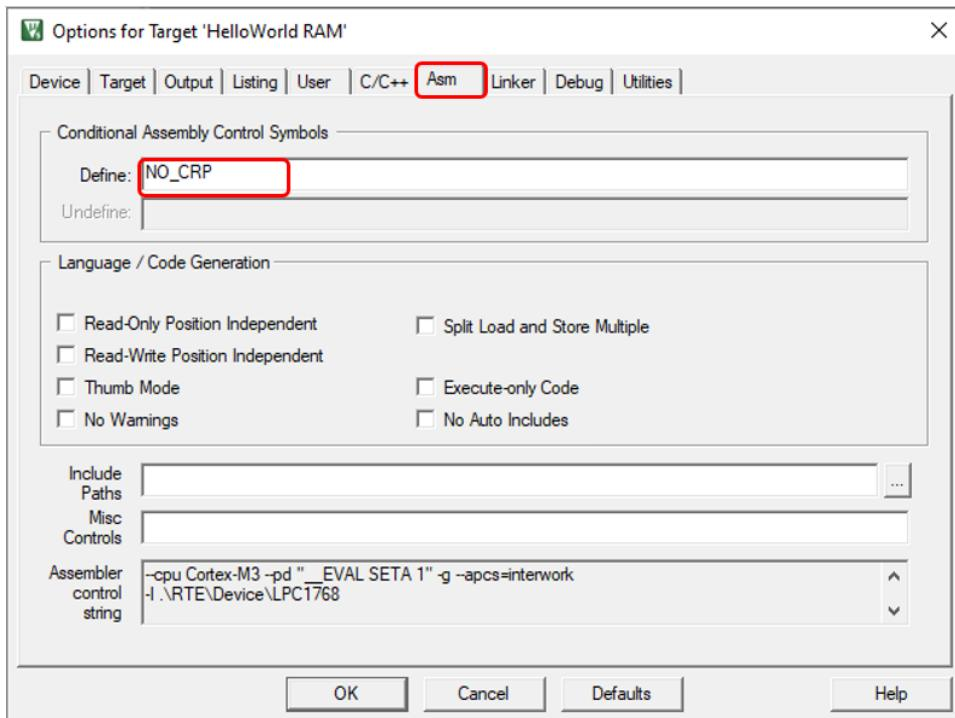

Figure 8.28: Keil IDE: RAM Target Asm Configuration.
4. Select the Asm tab and input NO_CRP in the Conditional Assembly Control Symbols section as shown in Figure 8.28.